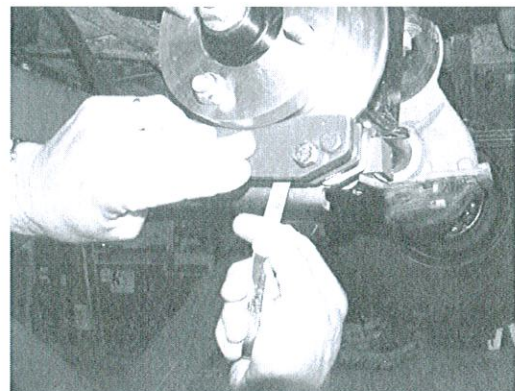

Fig. R7 - Check pad clearance
7. **Disconnect the cable from the caliper lever.** Place the caliper over the rotor. Check running clearance with the cable disconnected. Insert a 0.030 inch feeler gauge* between back of rotor and inside brake pad in the center of the pad. (See Fig. R7) You should have some resistance but still be able to move the feeler gauges across the full width of the pad.
8. Attempt to insert a 0.055 inch feeler gauge between back of rotor and inside brake pad in the center of the pad. (See Fig. R7) (You may need to stack gauges to equal 0.055) Try to move the feeler gauges across the full width of the pad.